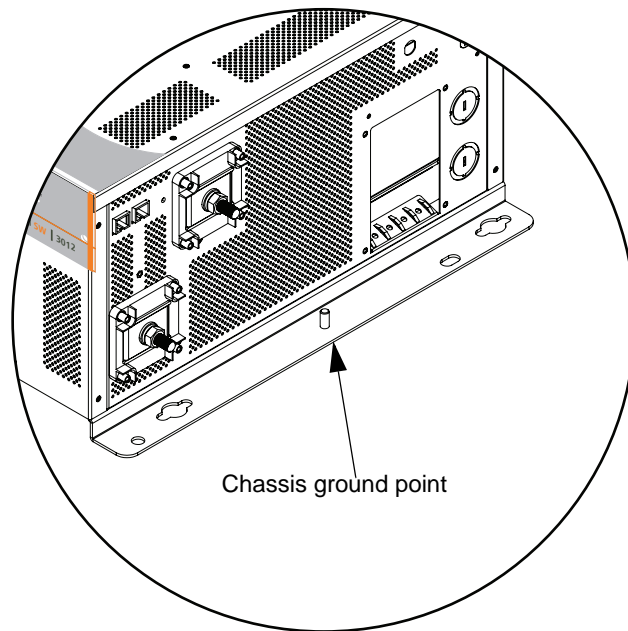

Figure 9 DC Wiring and DC Grounding
1. Using the appropriate wrench, loosen the nut on the chassis ground point bolt shown in Figure 9.